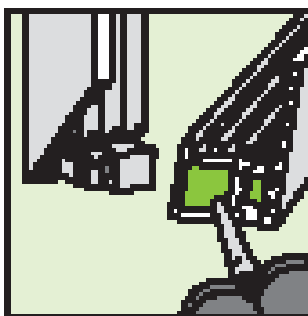

Figure 1
- The homogeneous mixture is achieved by means of pressing the gun directly to the surface where the adhesive is being applied (see Figure 1).